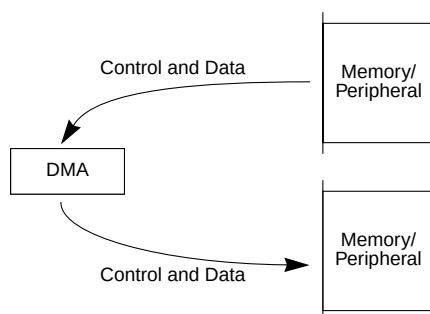

Figure 12-2. Dual-Address Transfer
- Dual-address transfers—A dual-address transfer consists of a read followed by a write and is initiated by an internal request using the START bit or by an external device using  $\overline{\text{DREQ}}$ . Two types of transfer can occur, a read from a source device or a write to a destination device; see Figure 12-2.